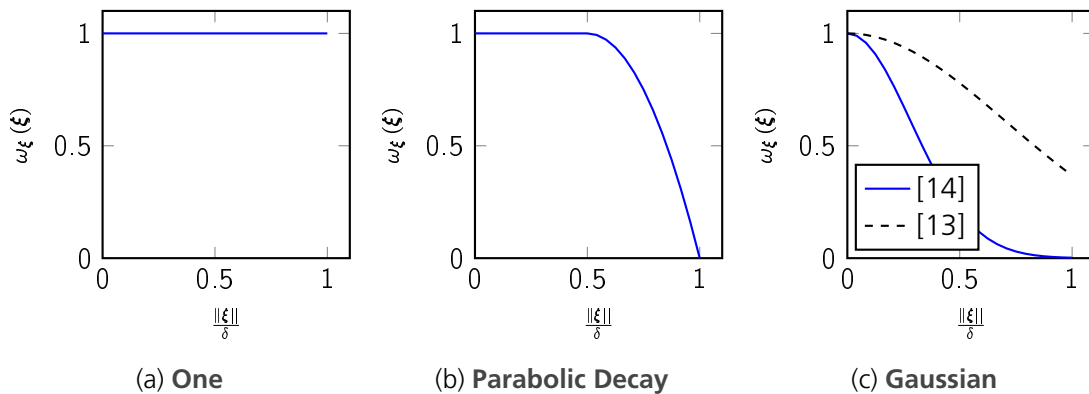

Figure 3.2.: Influence functions
3. The influence functions in Figure 3.2 are pre-implemented. Each unrecognized string is assumed to be an user-defined influence function. The default value is set to *One* in case the keyword is not specified, see `Peridigm.cpp`.